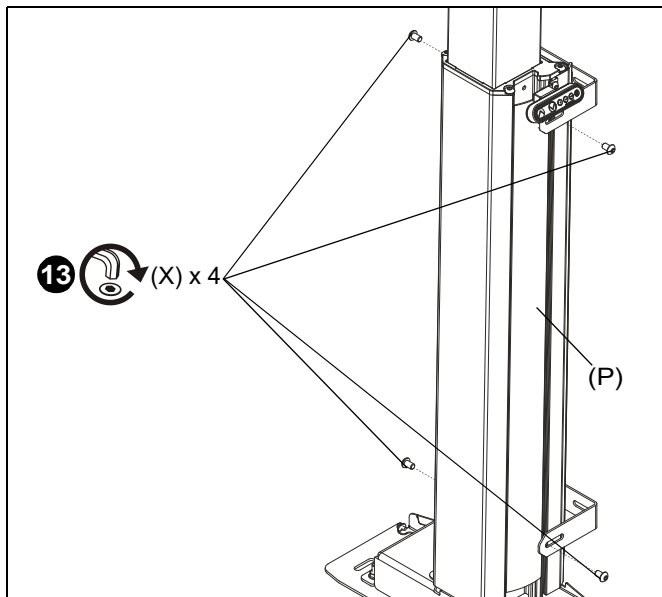

Figure 24
13. Install four 5/16 x 1/2" button head cap screws (X) through slots on wall brackets (B1) and side of column assembly (P). (See Figure 24)